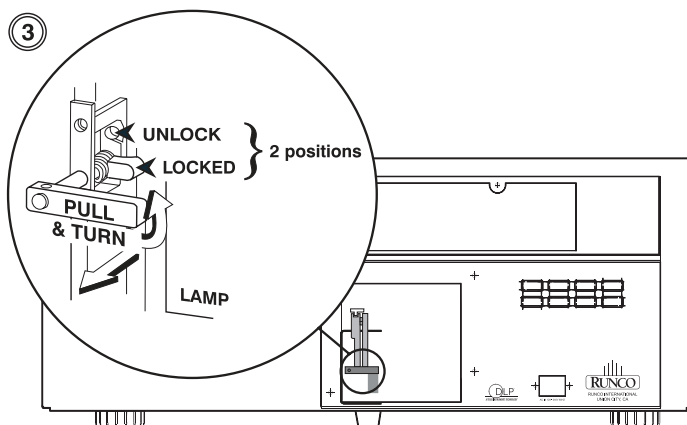

Figure 5-2. Unlocking the Lamp
3. Pull (out) and turn the lamp lock lever, which is located to the left of the lamp module, a quarter turn counterclockwise to the “unlock” position (Figure 5-2).